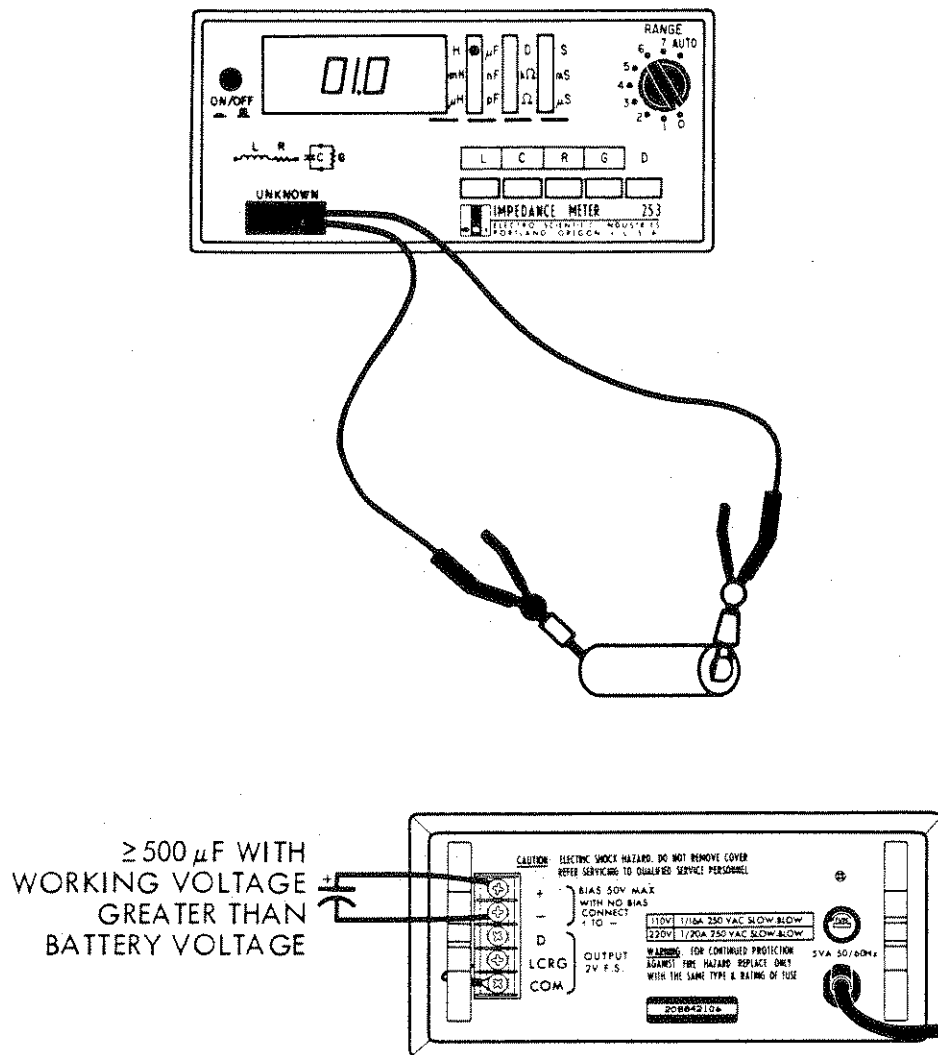

Figure 2-14. Measuring Battery Impedance
3. Connect a $500\mu\text{F}$ (or larger) capacitor, whose working voltage is greater than the rated voltage of the battery, to the bias terminals (see Figure 2-14). Observe correct polarity when connecting the capacitor.
4. Connect the test leads with the red hinge-spool to the positive battery terminal and the lead with the black hinge-spool to the negative terminal (see Figure 2-14).
The Ls function must be used to measure the series capacitance of a battery. Instrument set up is the same as for Rs measurements (Figure 2-14). A negative reading will be shown, and the following equation must be used to convert the "-Ls" reading to "+Cs" values: